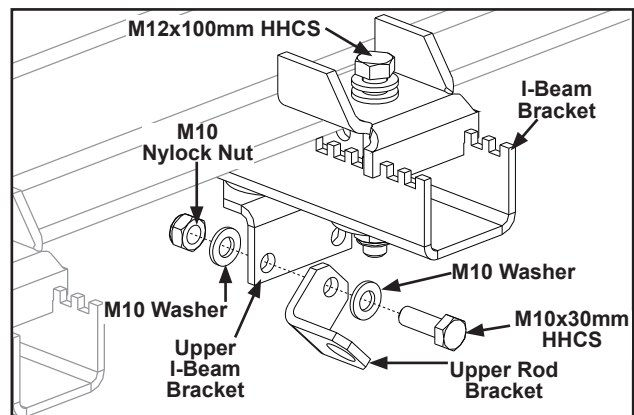

Figure 3-49
- Step 4. Align the upper rod bracket with the I-Beam mounting bracket. See Figure 3-49.
- Step 5. Insert M10x30mm HHCS through (2) M10 washers, upper rod bracket, I-Beam mounting bracket and M10x1.5 hex nut. **Tighten until bolts are snug + 1/4 turn.** Do not over tighten. Over tightening could cause bracket to bend. See Figure 3-49.
- Step 6. Clamp I-Beam bracket with sway rod mounting bracket assembly to I-Beam adjacent to hanger to be braced. See Figure 3-49.